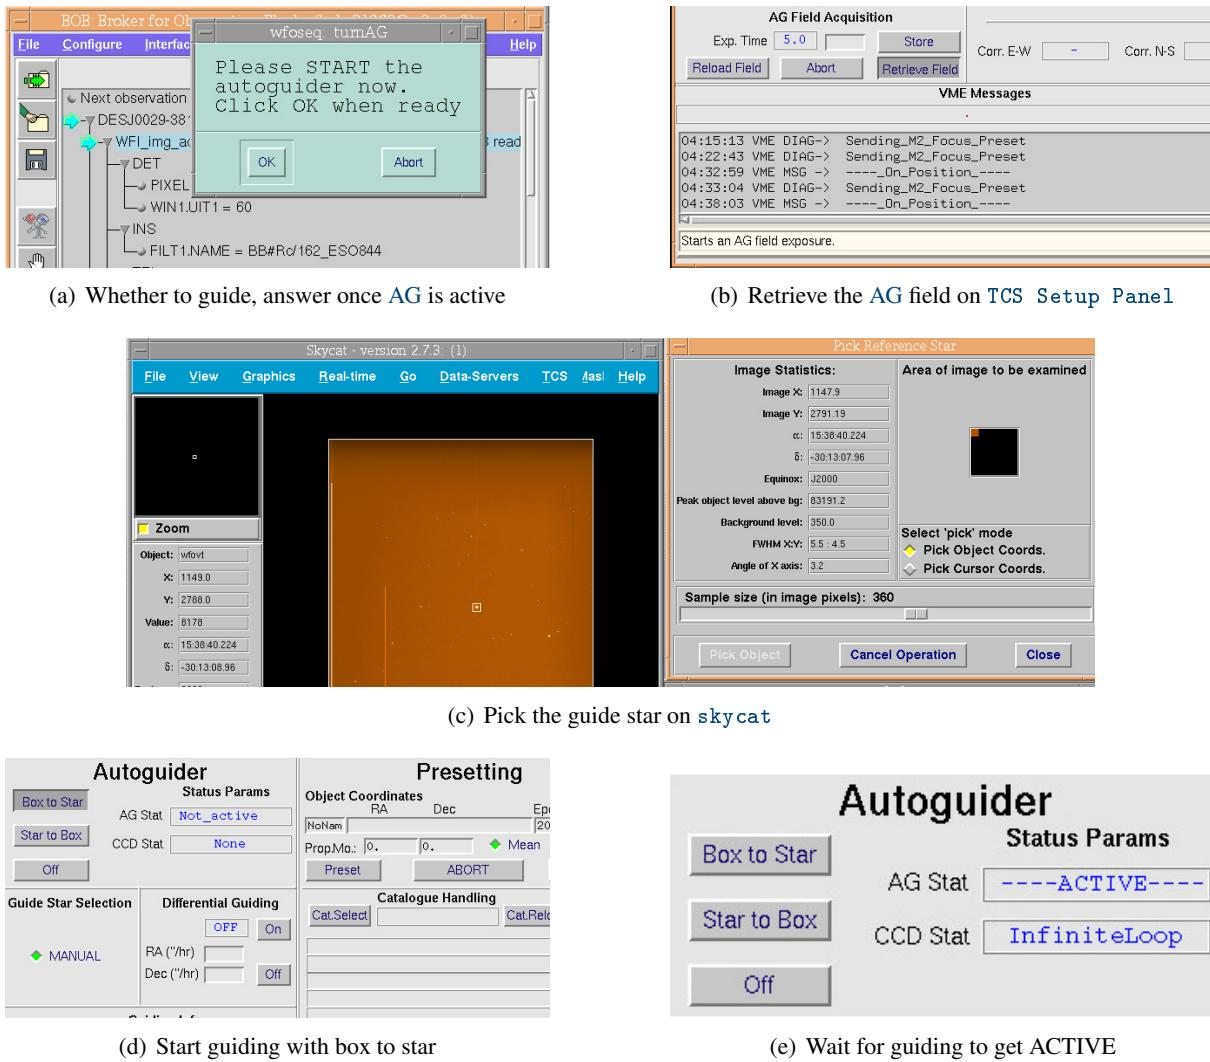

Figure 6.2: Setting the WFI AG for targets outside the solar system
A graphical outline of the procedure is given in Fig. 6.2, p. 64 in the case no differential guiding (for solar system bodies) is needed.
- A. On the TCS workstation, acquire the guide field (Fig. 6.2(b), p. 64)
- C. On the autoguider windows (Fig. 11.4, p. 124), choose the guide star (Fig. 6.2(c), p. 64)
D1. Activate the guiding (Fig. 6.2(d), p. 64)
D2. Wait for guiding to start (Fig. 6.2(e), p. 64)
E. Proceed with the observation, typically by clicking on pop-up asking for guiding (Fig. 6.2(a), p. 64)
- D2. Wait for guiding to start (Fig. 6.2(e), p. 64)
E. Proceed with the observation, typically by clicking on pop-up asking for guiding (Fig. 6.2(a), p. 64).